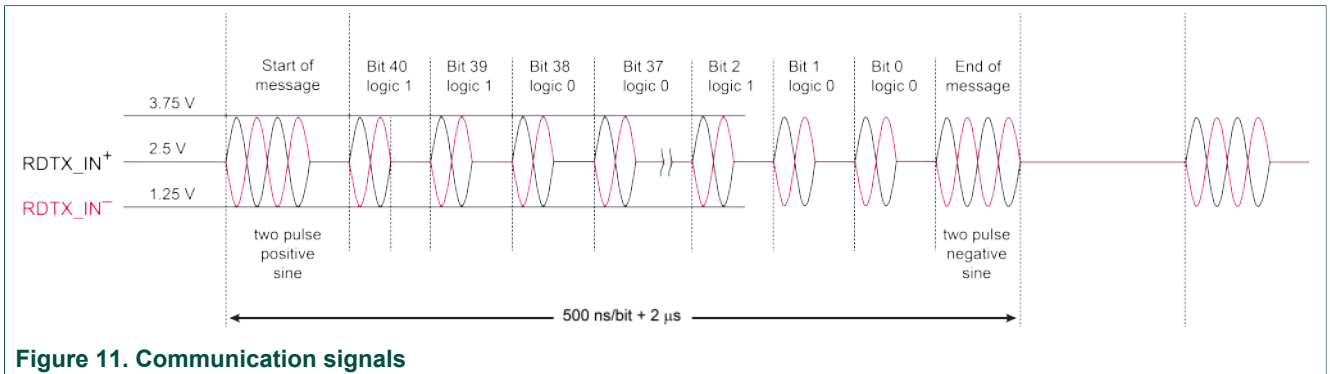

Figure 11. Communication signals
6. Observe the isolated differential signal and the SPI signal on the oscilloscope. Figure 11 shows the protocol of the output signal on the IC pins.
| Fig. 3. | LEDs | 7 | Fig. 11. | Communication signals | 17 |